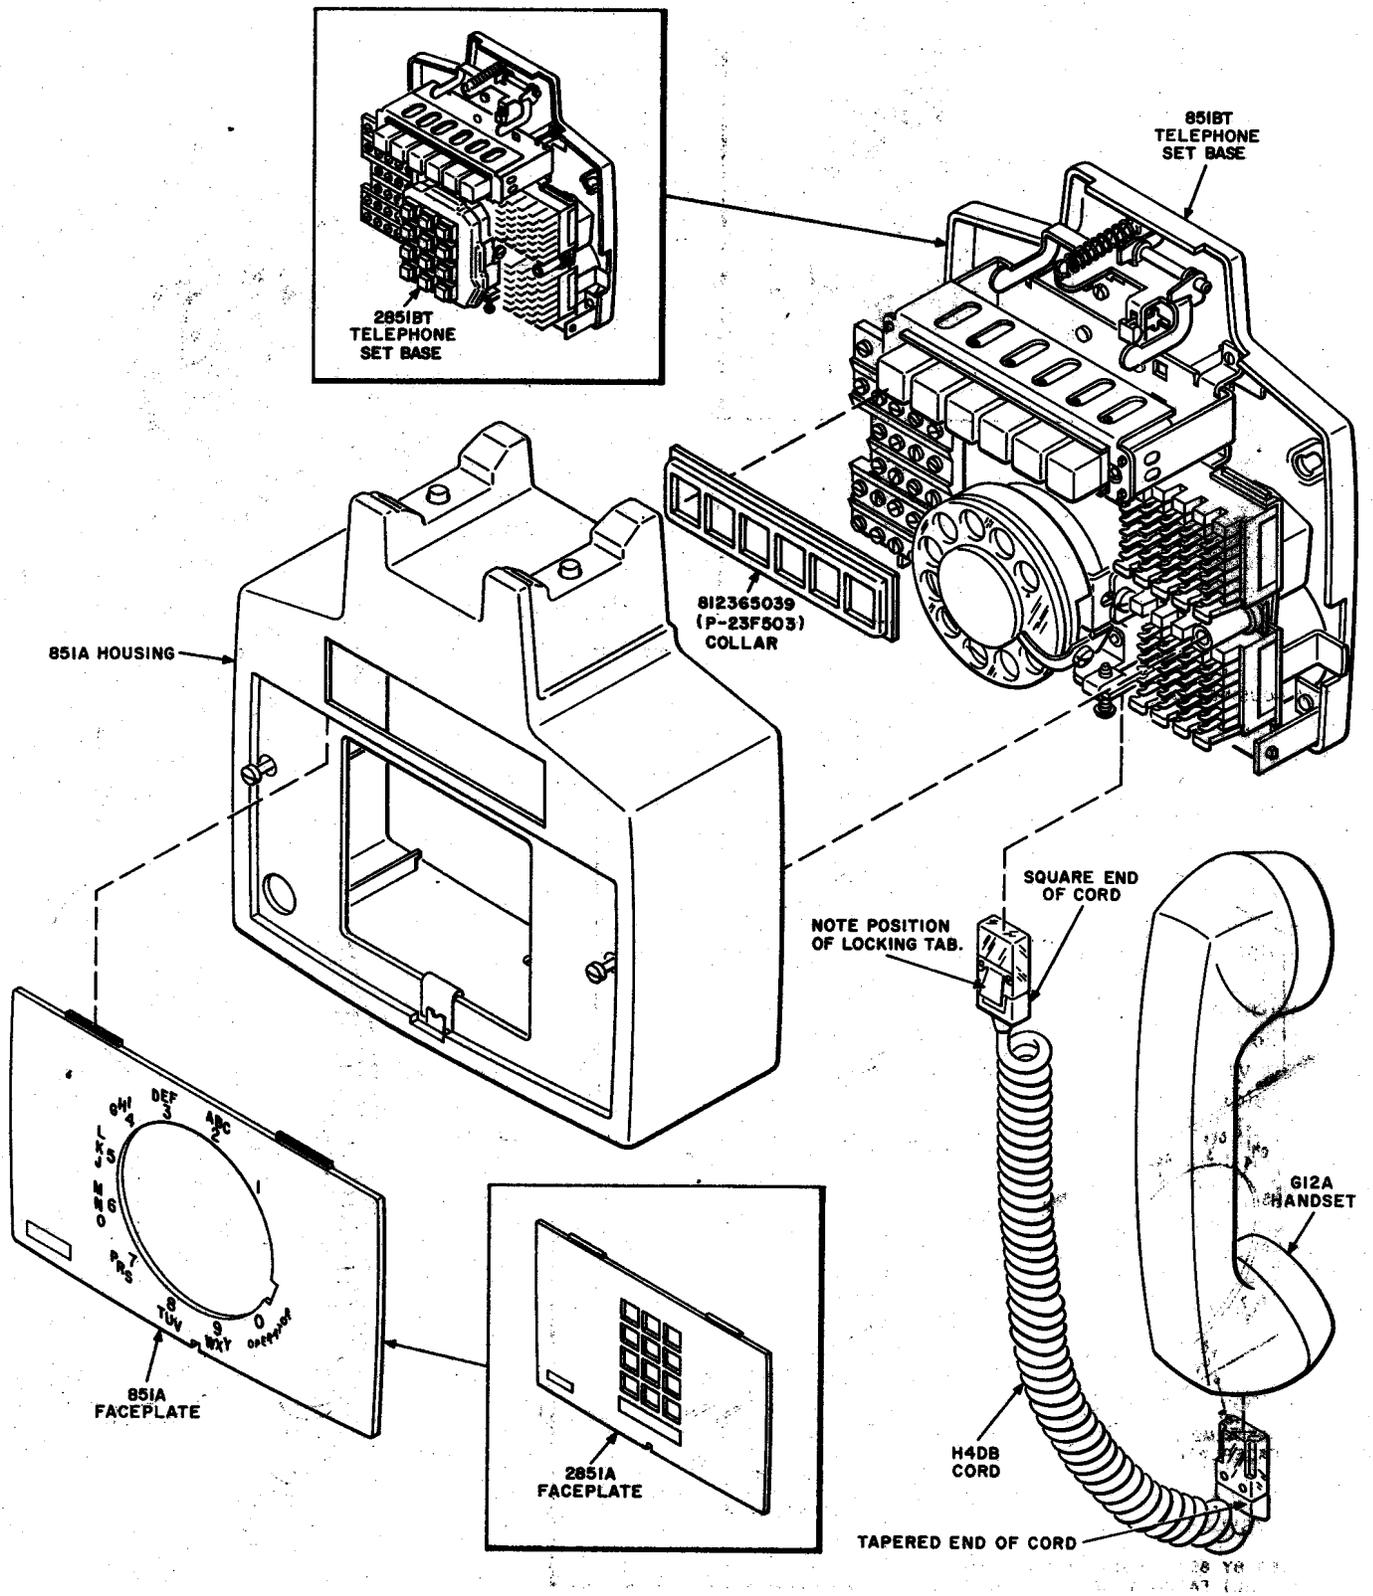

Fig. 24—Station Modular Arrangement, 851BT (MD) and 2851BT (MD) Telephone Sets Showing Later Baseplate and 851A Housing
3.19 Install H4DB handset cord in later production modular 851- and 2851-type telephone sets by inserting the end of the cord having the tapered plug into the handset and the square end into jack on bottom of set. Spring locking tab should face away from wall at bottom of set (Fig. 24).